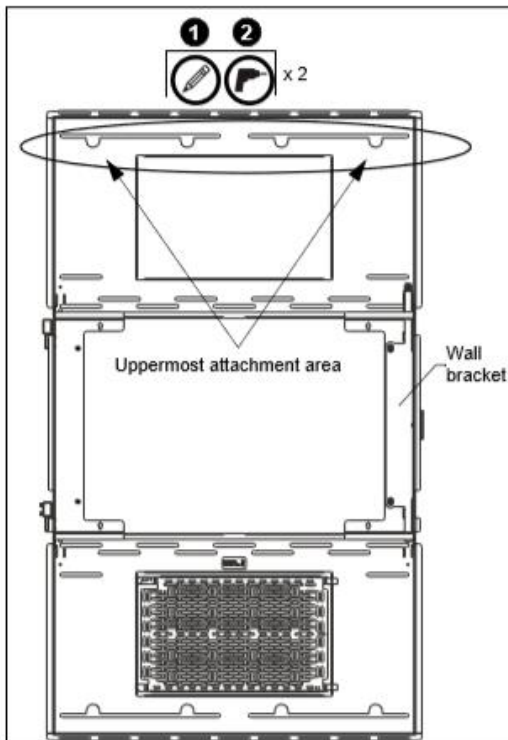

Figure 2
1. Determine the center of the wall bracket, and where it should be located on the wall. (See Figure 2)
**NOTE:** For wood or steel stud walls, use a level and mark the two uppermost locations over studs for attachment a minimum of 16" apart and a maximum of 24" apart. (See Figure 2)
**NOTE:** For concrete walls, use a level and mark the two uppermost locations for attachment as far apart as possible to provide maximum stability. (See Figure 2)
**NOTE:** For concrete walls, use a level and mark the two uppermost locations for attachment as far apart as possible. (See Figure 2)
2. Drill one pilot hole (see Table 1 for size) at both locations marked in Step 1 (See Figure 2) and follow fastener information (appropriate for wall type) located in Table 1.